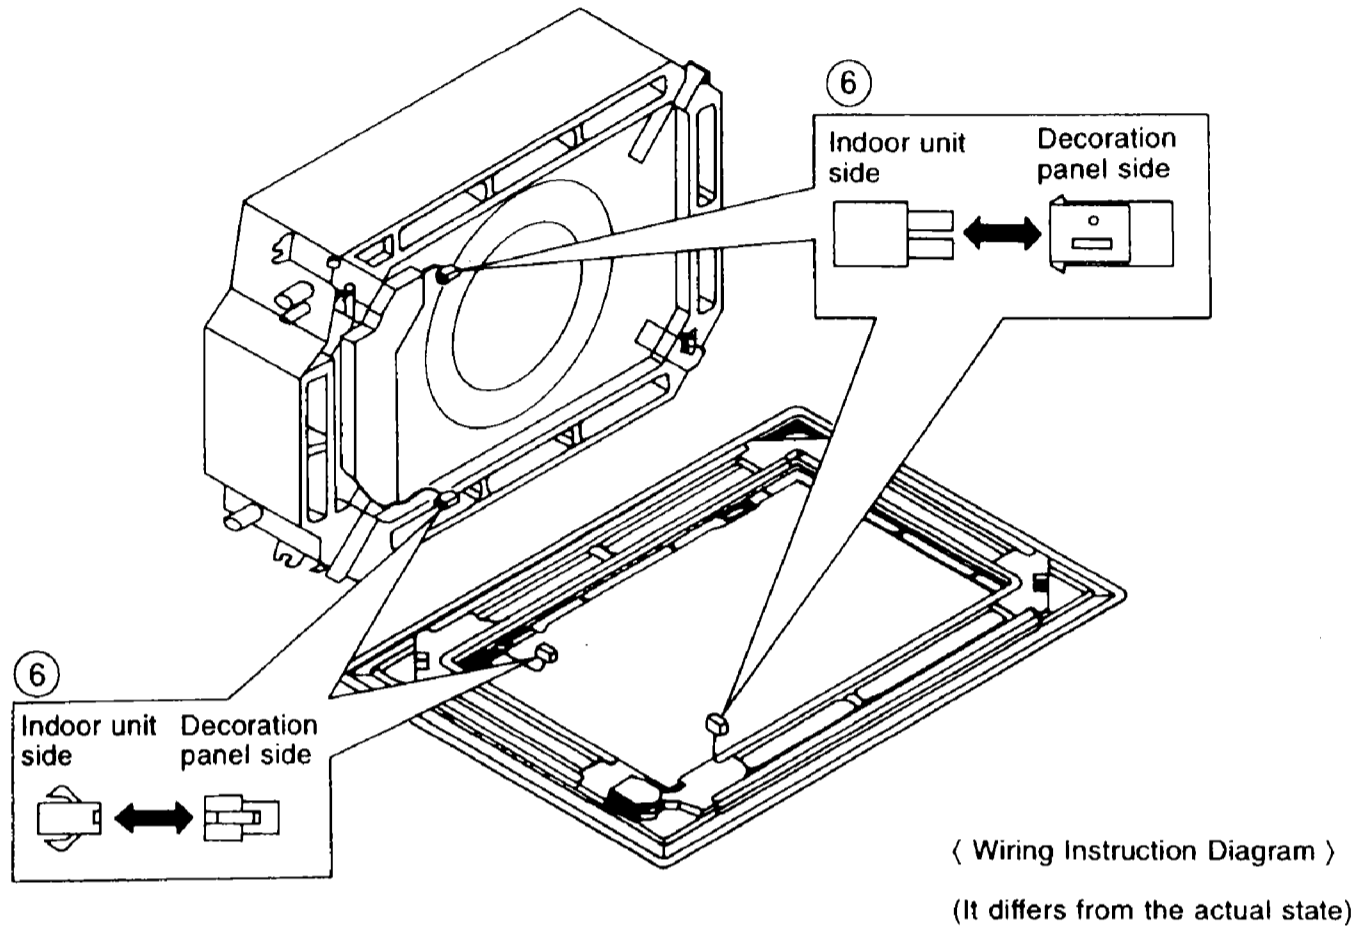

Fig. 9
(3) Wiring of the decoration panel (Refer to Fig. 9)
- ⑥ Connect the connectors for swing flap motor lead wire (at 2 places) installed on the decoration panel.